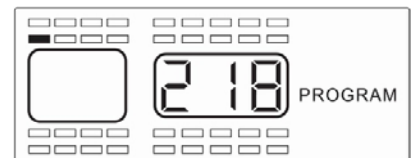

Figure 2-6a
- 8) If you have the correct number displayed, press the **S** button for 3 seconds until the number flashes twice and you hear a beep twice to signify that the sensor ID number was successfully input to the monitor (see Figure 2-6a).